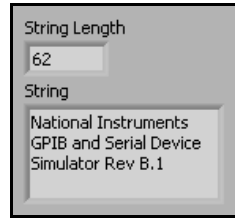

Figure 9-9. IIOASerial VI Front Panel Window
8. Display the front panel window. It should be similar to Figure 9-9.